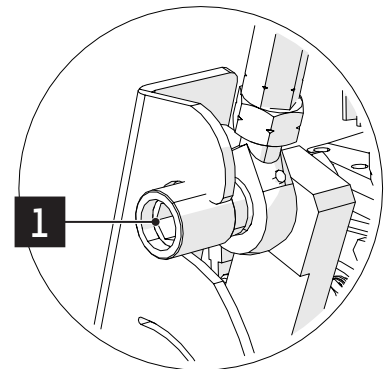

Fig. 31 - Detail of the screw fixing the connecting rod onto the gear motor shaft.
6. Disconnect the connecting rod from the gear motor shaft by unscrewing the screw **(1)** (⇒ Fig. 31, page 34);